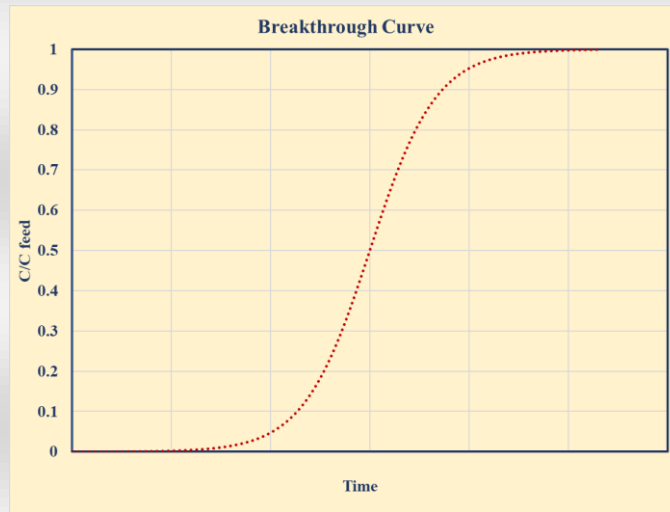

Figure 3-Adsorption Breakthrough Curve
- Breakthrough curve: a breakthrough curve is produced by passing a gas mixture with a known concentration through an adsorption bed and then recording the gas concentration at the bed outlet versus time. Breakthrough curve provides information about the kinetics and the working capacity of the adsorption bed. An adsorption breakthrough curve is shown in figure 3.